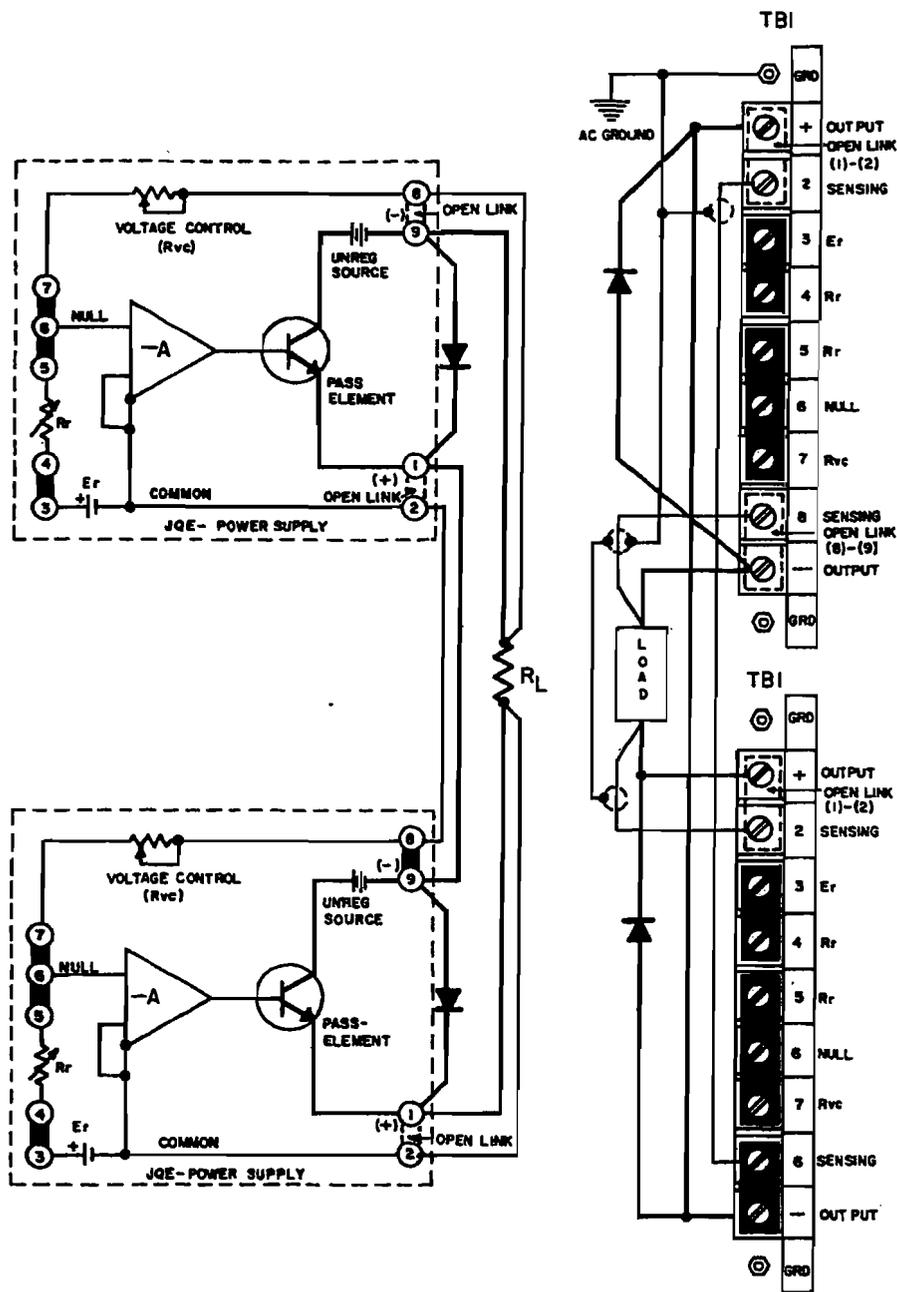
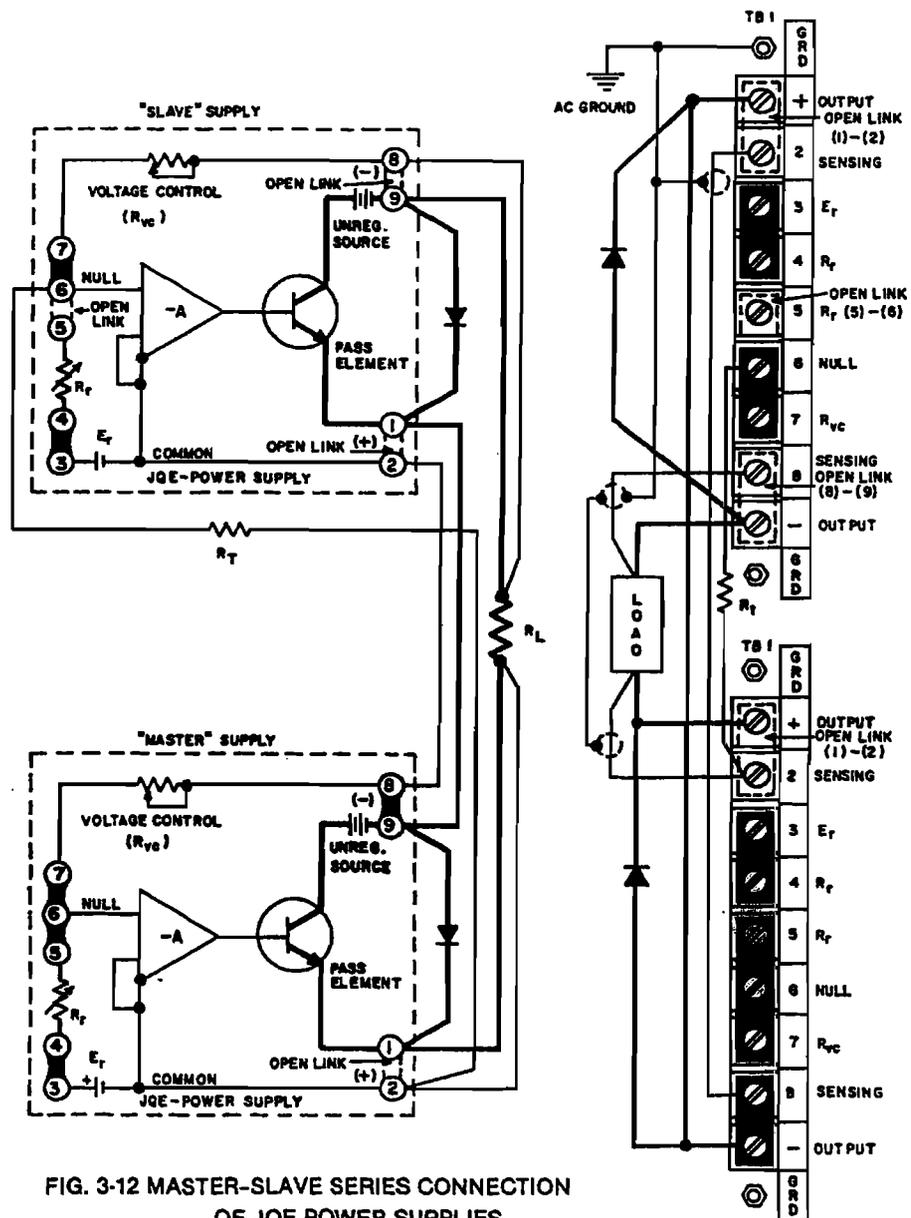

FIG. 3-11 AUTOMATIC SERIES CONNECTION OF JQE POWER SUPPLIES
FIG. 3-12 MASTER-SLAVE SERIES CONNECTION OF JQE POWER SUPPLIES
3-35 GENERAL. Kepco JQE Power Supplies can be series-connected for increased voltage output, provided the specified limits on voltage to chassis are not exceeded. When series-connected, the supplies should be protected by means of a semi-conductor diode across the output terminals of each power supply, as shown in FIG. 3-11. The peak inverse rating of these diodes must be at least as large as the output voltage of the supply to which they are connected. The continuous current rating of the diodes should be at least as great as the maximum output current of the interconnected supplies.
- a) Connect load as shown in FIG. 3-11. Keep voltage drop in load wires as low as practical by using heavy gauge wire.
3-37 An alternate method of series-connecting two or more power supplies is shown in FIG. 3-12. The basic difference between the "Automatic" series connection, shown in FIG. 3-11, and the "Master-Slave" connection (FIG. 3-12) is that with the former connection the outputs of both supplies may be controlled or programmed individually, while with the latter method only the "Master" supply is controlled, while the "Slave" supply follows the command of the "Master" in a ratio which may be pre-determined by the user. The "Master-Slave" series connection is therefore often termed an "Automatic Tracking" configuration.
As seen from FIG. 3-12, the reference voltage of the "Slave" supply is disconnected and its input (null junction) is connected (via R_t) to the output of the "Master" supply. Since the control current for the "Slave" supply is thereby derived from the "Master", the "Slave" output is thus completely dependent on the "Master" supply output:
As seen from the equation, if the tracking resistor (R_t) is made equal in value to the voltage control resistor of the "Slave" (R_{vcs}), a tracking ratio 1:1 is achieved, and the output of the "Slave" will equal that of the "Master". If a single load is connected to the series combination (FIG. 3-12), twice the "Master" output is applied to it. If separate loads are connected, identical voltages are applied to the individual loads. The ratio E_{os} / E_{om} can be readily changed if the application so requires by simply changing either R_{vcs} or R_t .
- a) Connect load(s) as shown in FIG. 3-12.